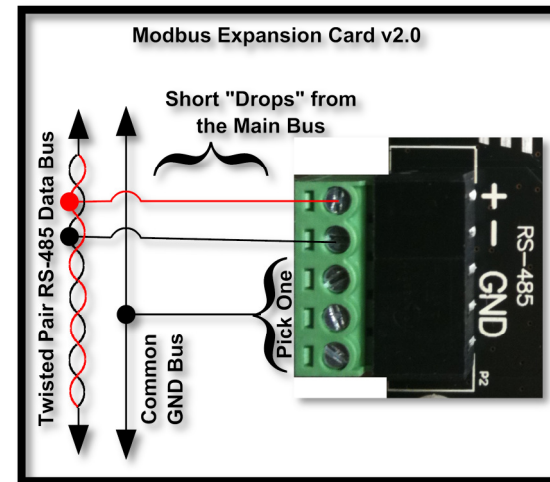

Figure 12
- For Modbus Card v2.0, wire up the + and - communication terminals to the RS-485 Bus according to Figure 12. Only half-duplex operation is supported.
- For Modbus Card v2.0, there are three ground pins on the pluggable header (the three rightmost pin). You only need to connect to one of these. See Figure 12.